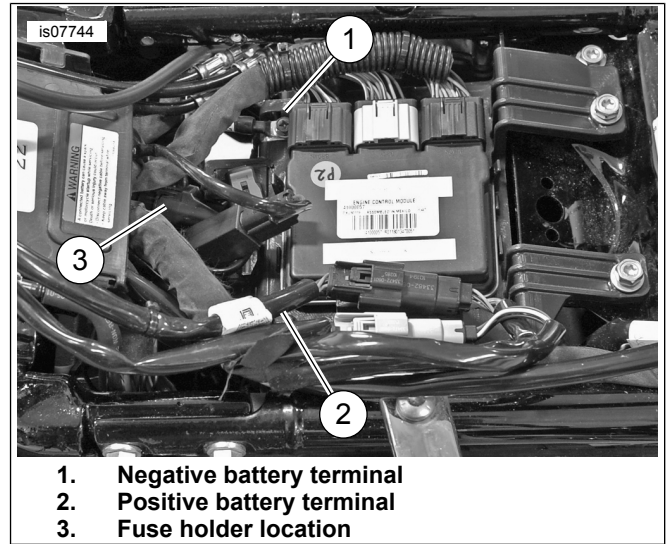

Figure 5. Battery Connection
8. See Figure 5. Install the wire trough cover. Cap any unused pin-side connectors with a four-way pin weather plug (Part No. 72632-10). Use the weather plug that comes with connector [313] on harness 692000478 or from the original equipment (OE) fairing harness connector [162].